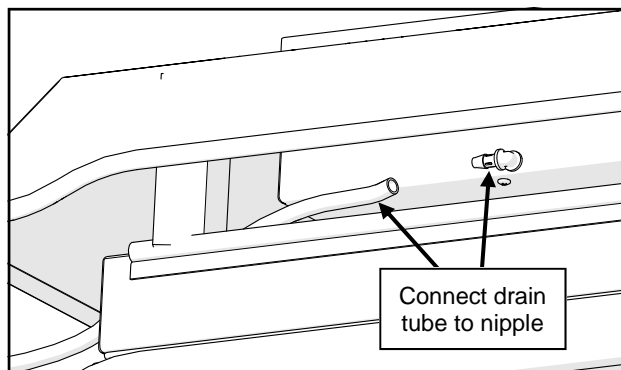

Fig. 2.14 (Install Drain Tubes)
- 2.14** Feed one end of a drain tube through the hole in the rear of the inner roof pan. Rotate the nipple on the side of the A/C unit to the rear of the unit and attach the drain tube. Repeat for the other side. Figure 2.14.